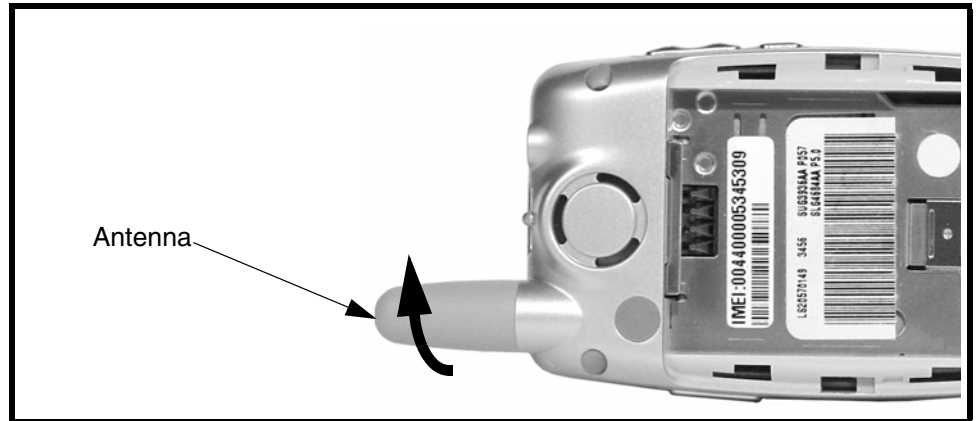

Figure 7. Removing and Replacing the Antenna
2. Unscrew the antenna counterclockwise as shown in Figure 7.